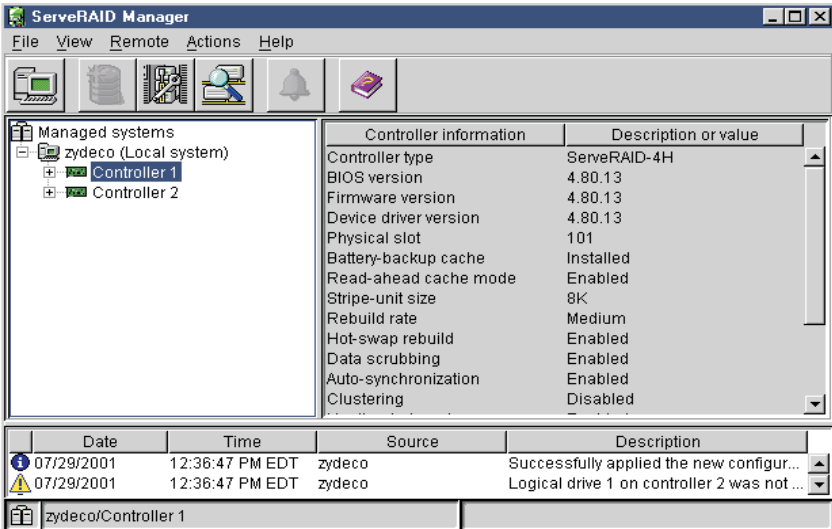

Figure 22. ServeRAID Manager window
The ServeRAID Manager program opens, and a window similar to the one shown in Figure 22 appears.
4. The ServeRAID Manager program opens, and a window similar to the one shown in Figure 22 on page 55 appears.